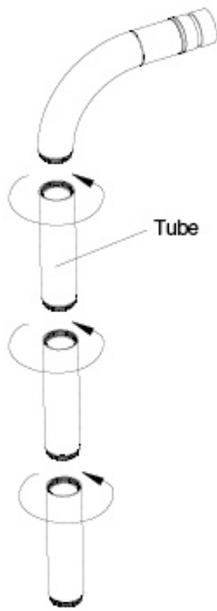
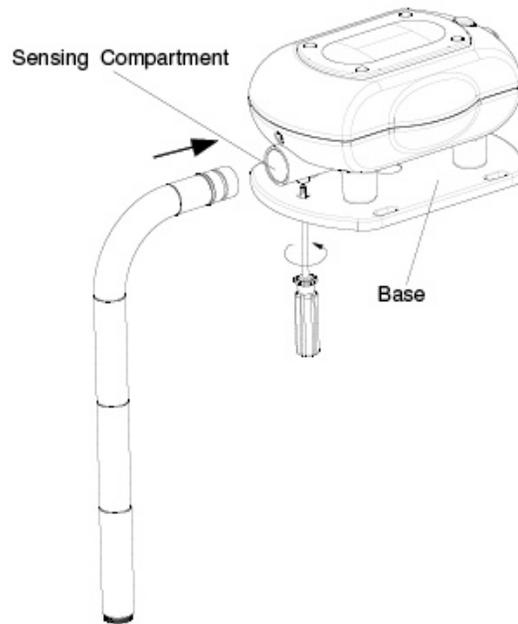
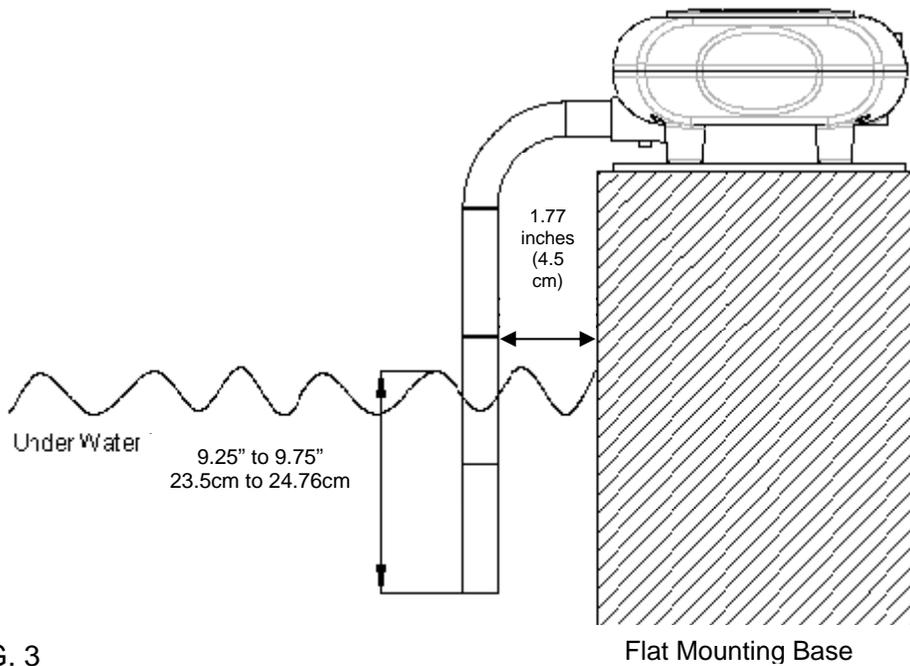

FIG. 1
FIG. 2
FIG. 3
There are four detachable tubes (FIG. 1 & FIG. 2), which can be connected to create a single, long tube. You will need to connect the appropriate number of tubes to ensure that the bottom end of the tube is between 9.25 inches (23.5 cm) and 9.75 inches (24.76 cm) below the waterline of the pool (FIG. 3).
2. Insert the tube to the sensing compartment of the PoolSonix base unit using the screw provided (FIG. 2)
3. The base unit must be placed so that the tube is approximately 1.75 inches (4.5cm) from the pool wall. (See FIG.3)
To permanently install the unit on flat coping use the attached flat mounting plate. Make sure the unit is positioned as shown in (FIG.3) below. Using a marker – mark the deck through the 4 mounting slots located on the sides of the mounting plate. Drill four ¼” holes through the marks. Install the mounting screw anchors in the holes with a small amount of silicone. Place the unit over the holes and attach using four 30mm screws provided.